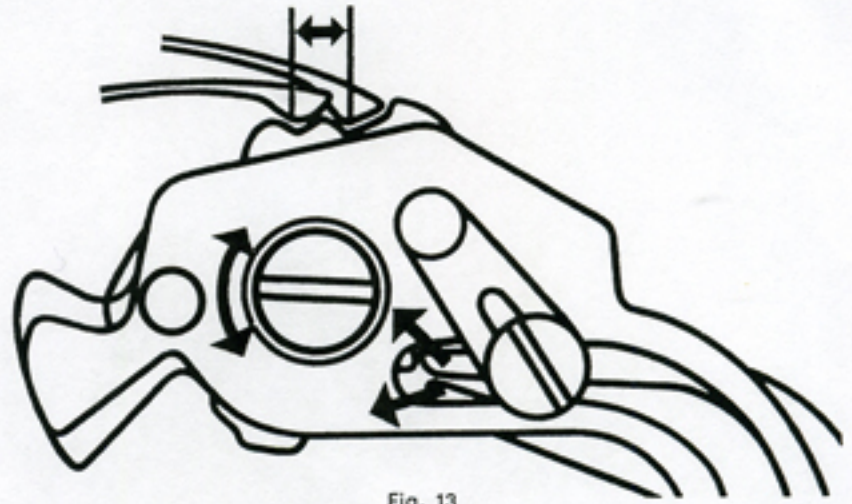

Fig. 13
- 3.1.10. Fit the hammer-cam jumper and screw it tight. Check: the working of the reverser (fig. 13) by moving the operating-lever;